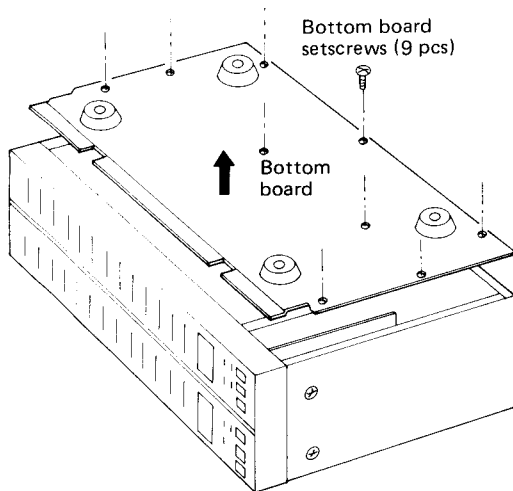

Fig. 2
1. Remove 9 setscrews as in Fig. 2 and remove the bottom board.